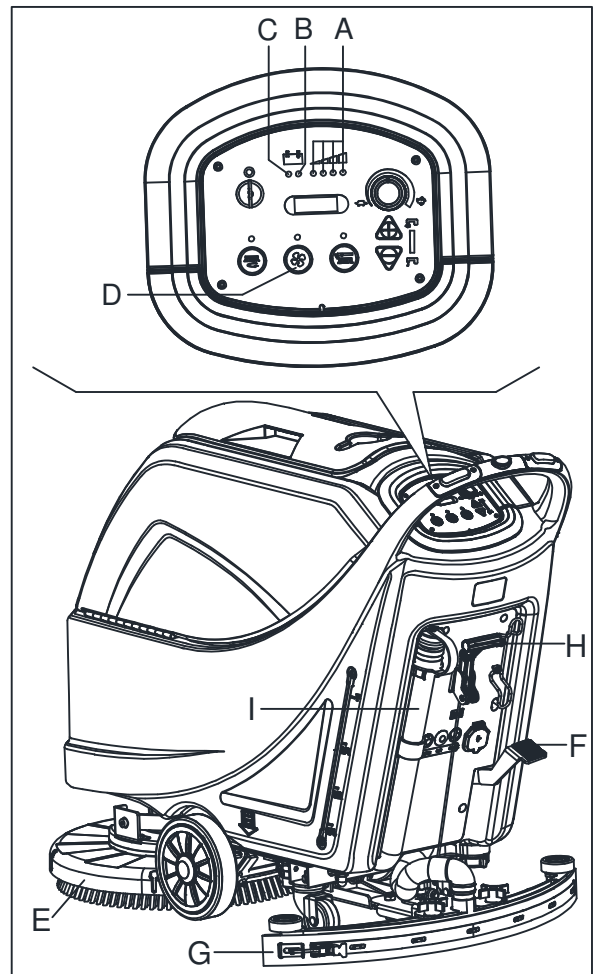
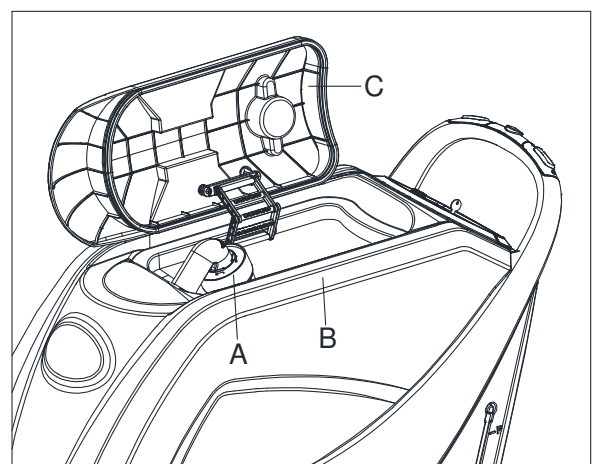

Figure 10
Figure 11
Until the green warning light (A, Figure10) stays on, the batteries allow the machine to work normally. When the green warning light (A) turns off, and the yellow warning light (B) turns on, it is advisable to charge the batteries, because the remaining charge will last for a few minutes (depending on battery characteristics and work to be performed). When the red warning light (C) turns on, batteries are fully discharged. After a few seconds, the brush/pad-holder is automatically tuned off, while the (only for machine with traction) drive system stay on, to finish drying the floor and drive the machine to the appointed recharging area.
An automatic float shut-off system (A, Figure11) blocks the vacuum system when the recovery water tank (B) is full. The vacuum system deactivation is signaled by a sudden increase in the vacuum system motor noise frequency, also the floor has not dried.
If the vacuum system turns off accidentally (for example, when the float is activated because of a sudden machine movement), to resume the operation: turn off the vacuum system by pressing the switch (D, Figure 10), then open the cover (C, Figure 11) and check that the float inside the grid (A) has gone down to the water level. Then close the cover (C) and turn on the vacuum system by pressing the switch (D, Figure 10).
When the recovery water tank (B, Figure11) is full, empty it according to the following procedure.
2. Lift the brush/pad-holder deck (E, Figure10) by pressing the pedal (F).
3. Lift the squeegee (G) with the lever (H).
5. Empty the recovery water tank with the hose (I). Then, rinse the tank (B, Figure11) with clean water.